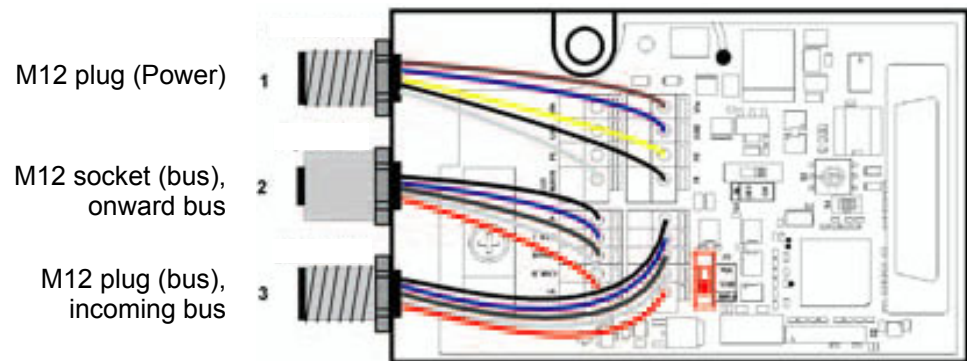

Figure 10-5: Installation and connection of the optional M12 connectors
5. Connect cables acc. to Figure 10-5 and Table 10-2.